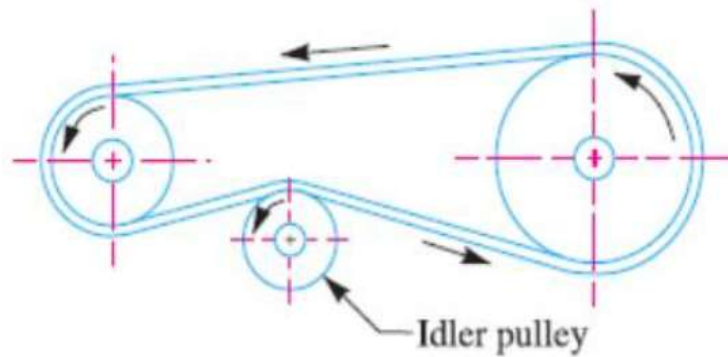

Fig. 7. Belt drive with single idler pulley.
- d) *Belt drive with idler pulleys. A belt drive with an idler pulley (also known as jockey pulley drive) as shown in Fig. 7 and 8, is used with shafts arranged parallel and when an open belt drive can not be used due to small angle of contact on the smaller pulley.*